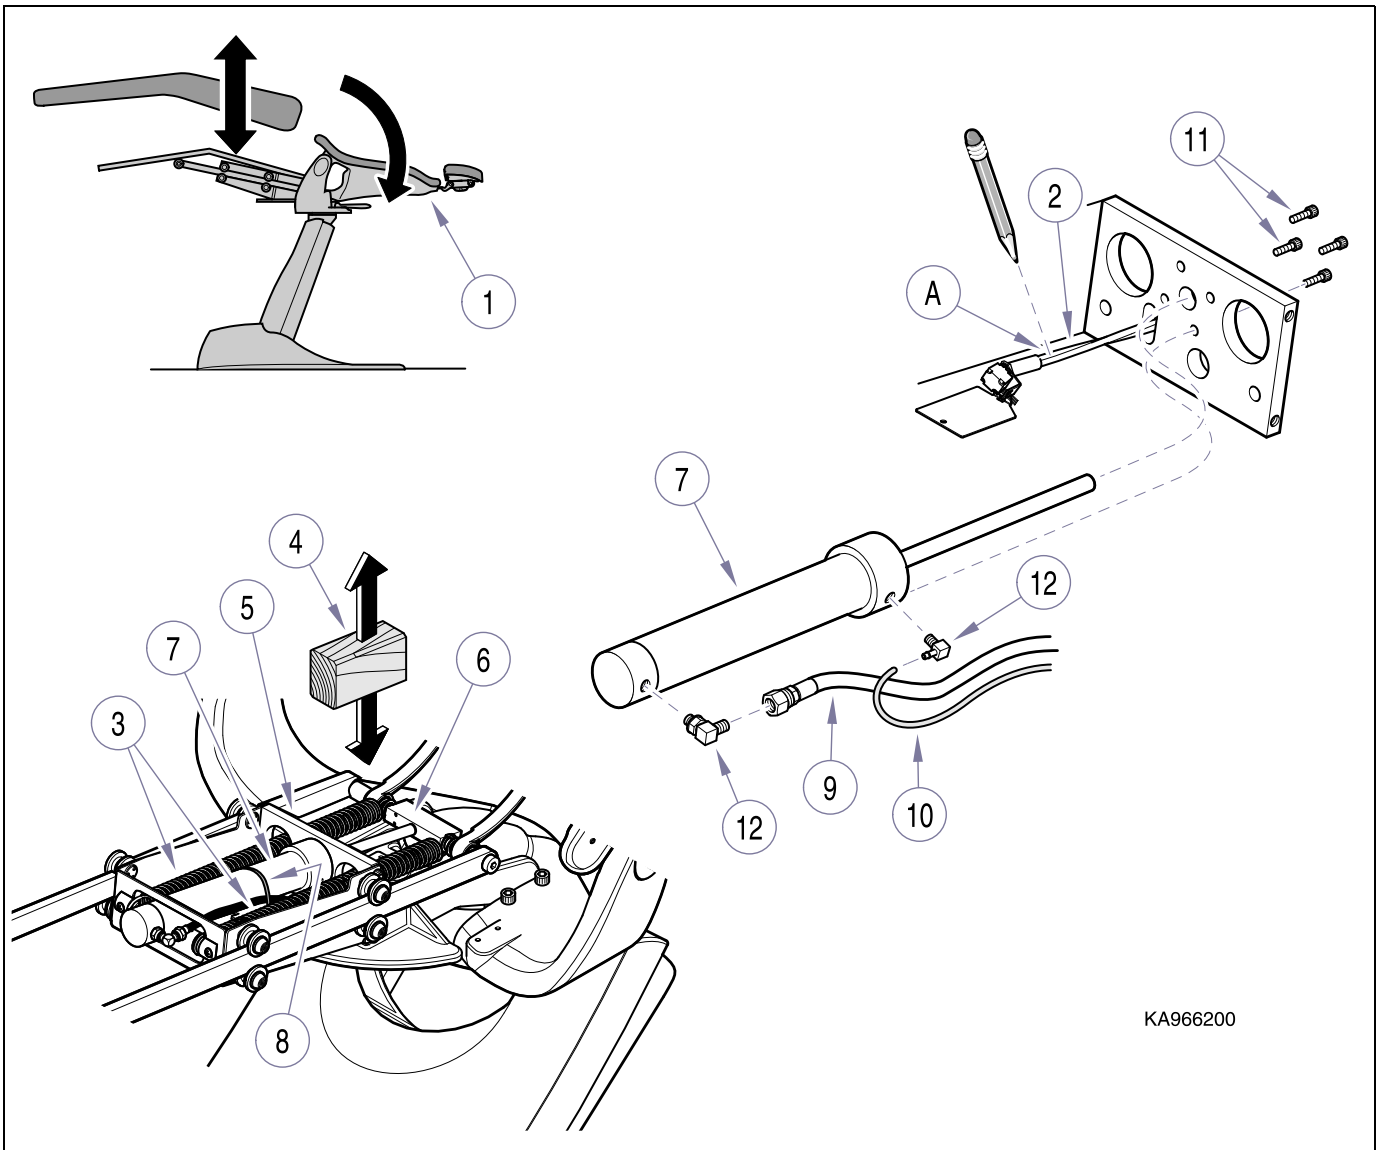

Figure 4-6. Back Hydraulic Cylinder
- (1) Remove the seat upholstery (refer to para 4.2).
- (2) Place back (1, Fig. 4-6) in complete down position to remove pressure from cylinder and lines.
- (1) After removing shipping plugs from hydraulic cylinder (7, Fig. 4-6), install fittings (12).
- (2) Install hydraulic cylinder (7), four mounting screws (11), connect pressure (9), vent (10) hoses, and secure with cable tie (8).